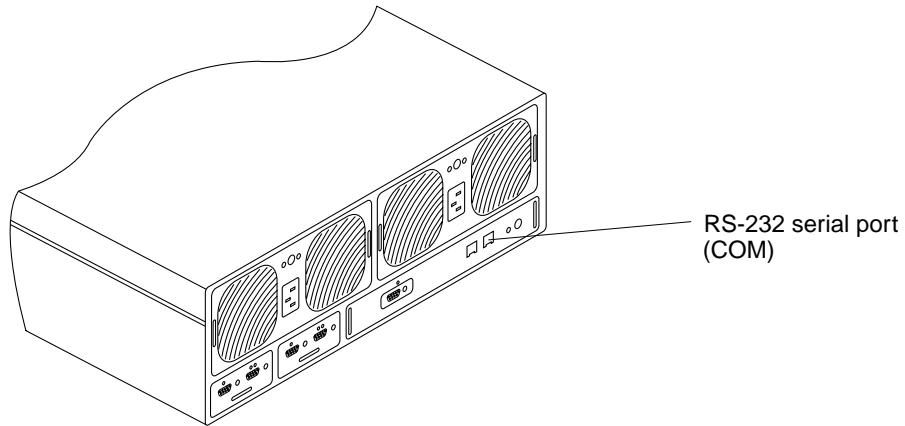

FIGURE 7 Sun StorEdge T3 Array Back Panel
1. Connect a console to the RS-232 serial port (see FIGURE 7) on the back of a Master Controller Unit (MCU).